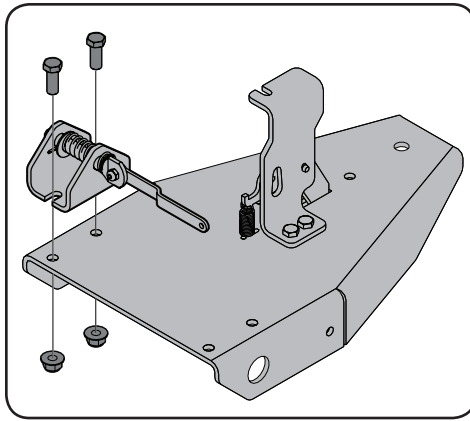

Figure 2-8
1. Install pin lock assembly (689-00663) to blade tongue (789-00471) with 2 bolts (710-0514) and 2 nuts (712-04065) found in hardware pack 5 (689-00688). See Figure 2-8.